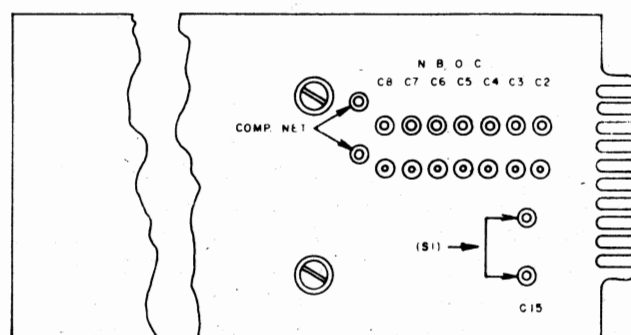

Figure 3. Strapping Post Location
5.03 Figure 3 is an illustration of the printed wiring side of the 785-1D or 785-1G module showing the strapping posts. Refer to this illustration, as necessary, in the following paragraphs.